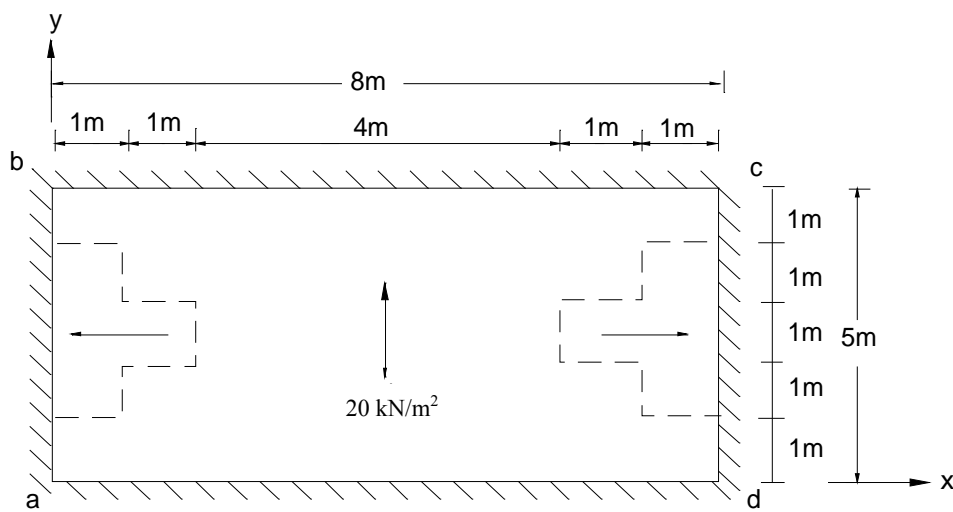

Figure 5
b) Figure 5 portrays a rectangular slab that is simply supported along the four edges. If the slab carries a design load for the ultimate limit state is 20kN/m^2 determine the following using Wood and Armer method.